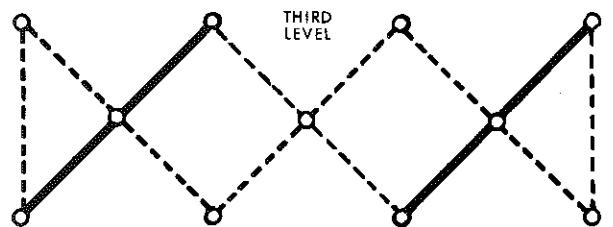

FIGURE 4
□ Set the last two 3-hole braces on top of the second level. Move the braces around until the holes line up. This is the third level. (Fig. 4)